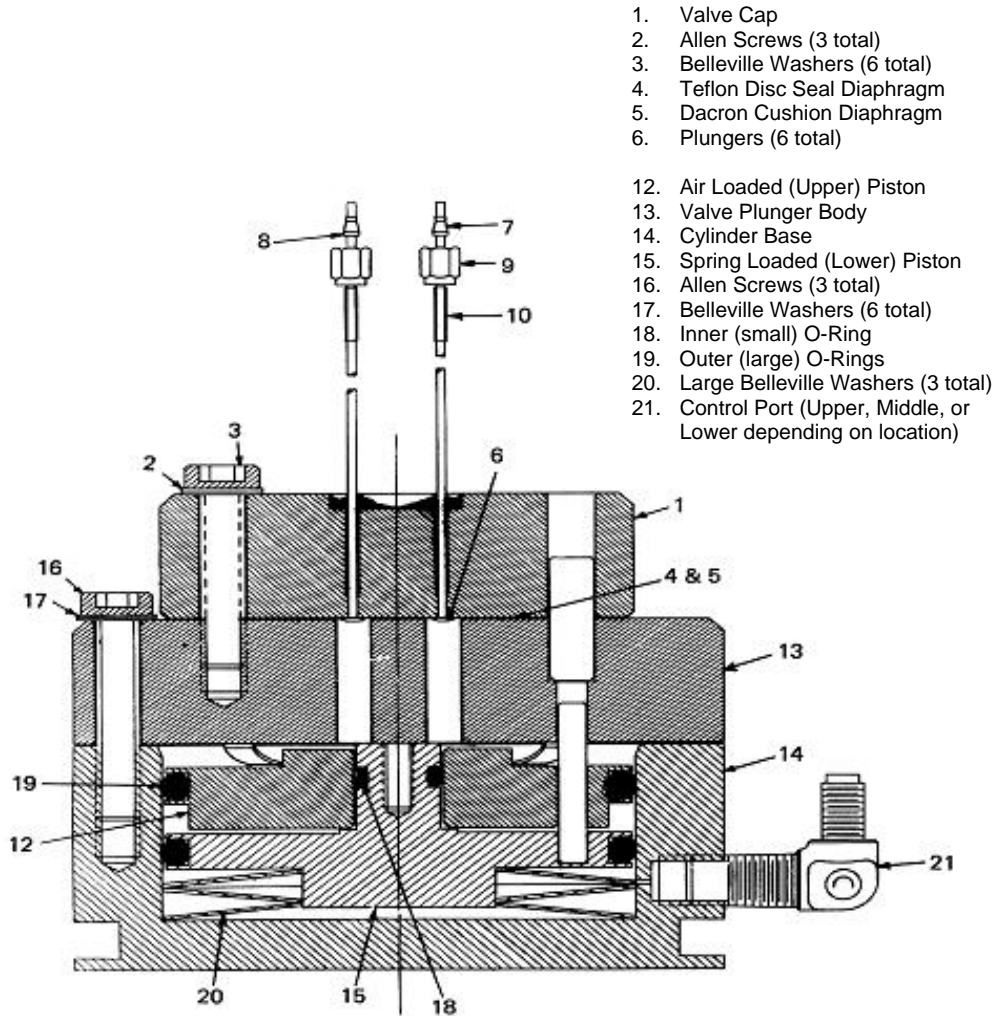

Figure 4-28: Section View of Model 20 Valve
Escaping air from valve vent hole indicates a ruptured diaphragm (4), which must be replaced. Check for liquid substances escaping from the vent hole. Refer to Figure 4-28.
Improper lubrication and/or contamination of Bal-Seal (18) will increase friction on valve-actuating piston. This causes valve switching to be erratic, slow or inoperative. Refer to Figure 4-28. To correct the conditions causing slow or erratic piston switching, perform the following:
The following procedures should be followed for performing Mini-Maintenance on the Model 20 Valve. Refer to Figures 4-28 and 4-29.
8.	Place the actuator assembly upright on a clean lint free cloth surface. Refer to Figures 4-28 and 4-29.
9.	Position the Dacron cushion disc diaphragm (5) between the three alignment pins on the plunger valve body (13).
10.	Using tweezers, hold Teflon seal disc diaphragm (4) by its edges. Before reinstalling disc, remove lint, dust and oils by sliding disk between your index and middle fingers.
11.	Install Teflon seal disc diaphragm (4) over the Dacron diaphragm disc cushion (5).
The following procedures should be followed for performing Maxi-Maintenance on Model 20 Valve. Maxi-Maintenance procedures include the Mini-Maintenance procedures in addition to the disassembly, inspection and assembly of the valve Actuator presented in this section. Refer to Figures 4-28 and 4-29.
12.	Install the three large Belleville washers (20) in cylinder valve base (14). Washers must be positioned in an alternating bevel up, bevel down manner (to form a spring). Refer to Figures 4-28 and 4-29.
13.	Apply a bead of Krytox 240 AC lubricant, or equivalent; in "O" ring grooves of spring-loaded piston (15).
14.	Install new silicon O-rings (18 and 19) in spring loaded piston (15) and apply a coating of lubricant over each "O" ring.
16.	Install a new silicon "O" ring (19) in the upper air loaded piston (12a) and apply a coating of lubricant over the "O" ring.
17.	Place upper piston (12a) over the small diameter of lower piston (15). Position pistons using guide pin (12b) for proper orientation.
18.	Apply Krytox 240C lubricant to each of the six finger spring (12c) pressure points. This is the point where the spring fingers contact the plunger body (13).
19.	Position the valve upright with its three ports on the left. Install a #6-32 screw in the center-threaded hole of air loaded piston assembly (12) and bottom spring-loaded piston (15).
21.	Press the piston assembly into the cylinder base (14). After installation, remove the #6-32 screw.
22.	Align plunger valve body (13) and insert the piston guide pin (12b) into one of the three bottom holes of plunger valve body (13).